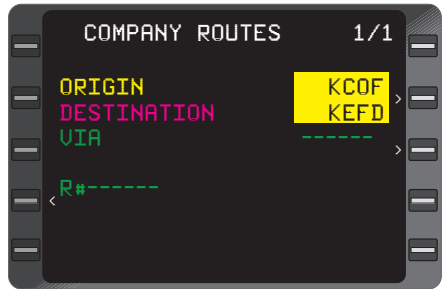

Figure 3-59c
4. **ENT** Key - DEPRESS. (Figure 3-59c) If the pair is valid and has only one VIA, the ACTIVE FLIGHT PLAN page is now displayed with the waypoints of the pair added.